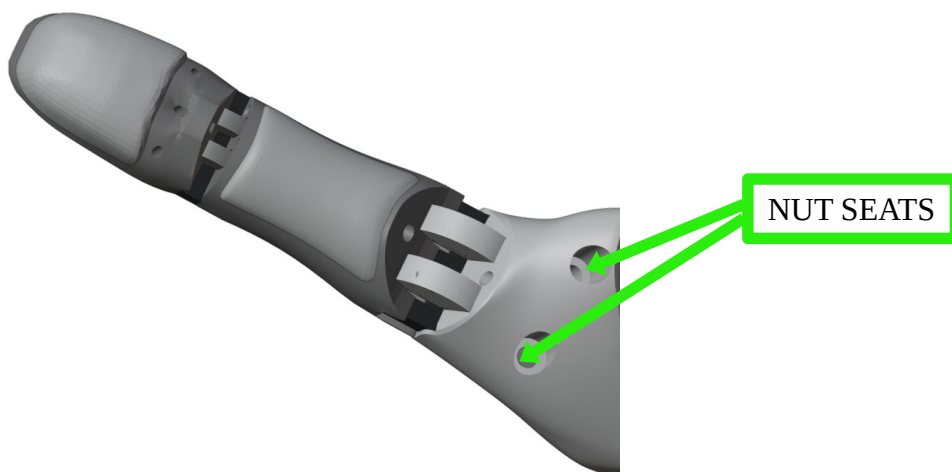

Figure 5.21: Thumb fastening with nuts
2. Take the remaining part (on the rear of the skeleton) and insert it into the final slot shown in figure 5.21.